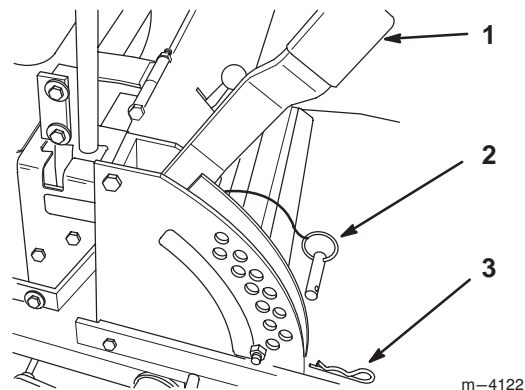

Figure 11
1. Raise the height-of-cut lever to the transport position (also the 4-1/2" (114 mm) cutting height position) (Fig. 11).
2. To adjust, remove hairpin cotter and clevis pin from height-of-cut bracket (Fig. 11).
3. Select hole in height-of-cut bracket corresponding to the height-of-cut desired, and insert clevis pin (Fig. 11).
4. Secure clevis pin with hairpin cotter (Fig. 11).